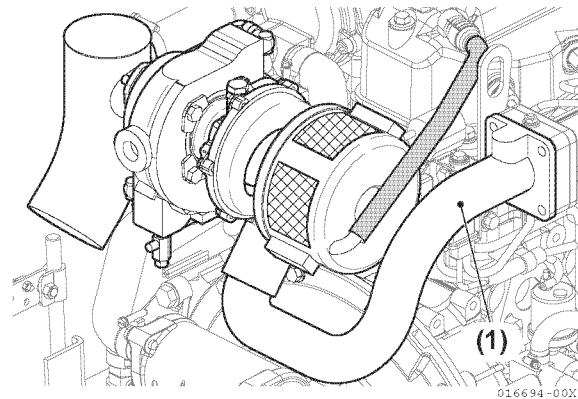
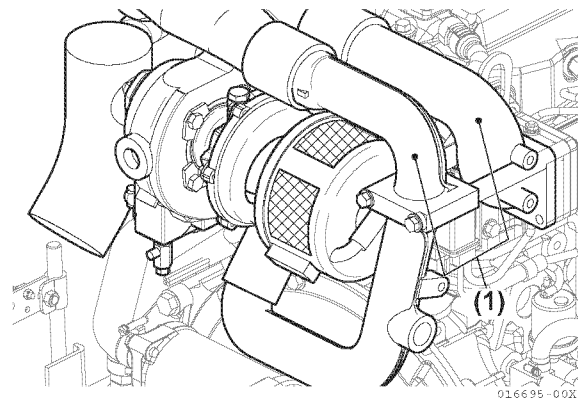

Figure 9-3
Figure 9-4
1. Remove intake pipe for 4JH4-TE (**Figure 9-3, (1)**) and intake pipes (turbine, intercooler, intake manifold) for 4JH4-HTE (**Figure 9-4, (1)**).